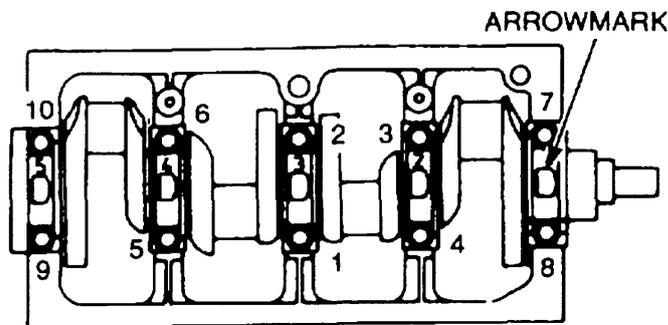

Figure 40 Crankshaft Bearing Bolt Tightening Sequence
- h. Install and tighten the retaining bolts to 225 to 245 N.m (166 to 181 lbf.ft) in the sequence depicted in Figure 40 while tapping the bearing cap from side to side to centralize and seat the bearing correctly.